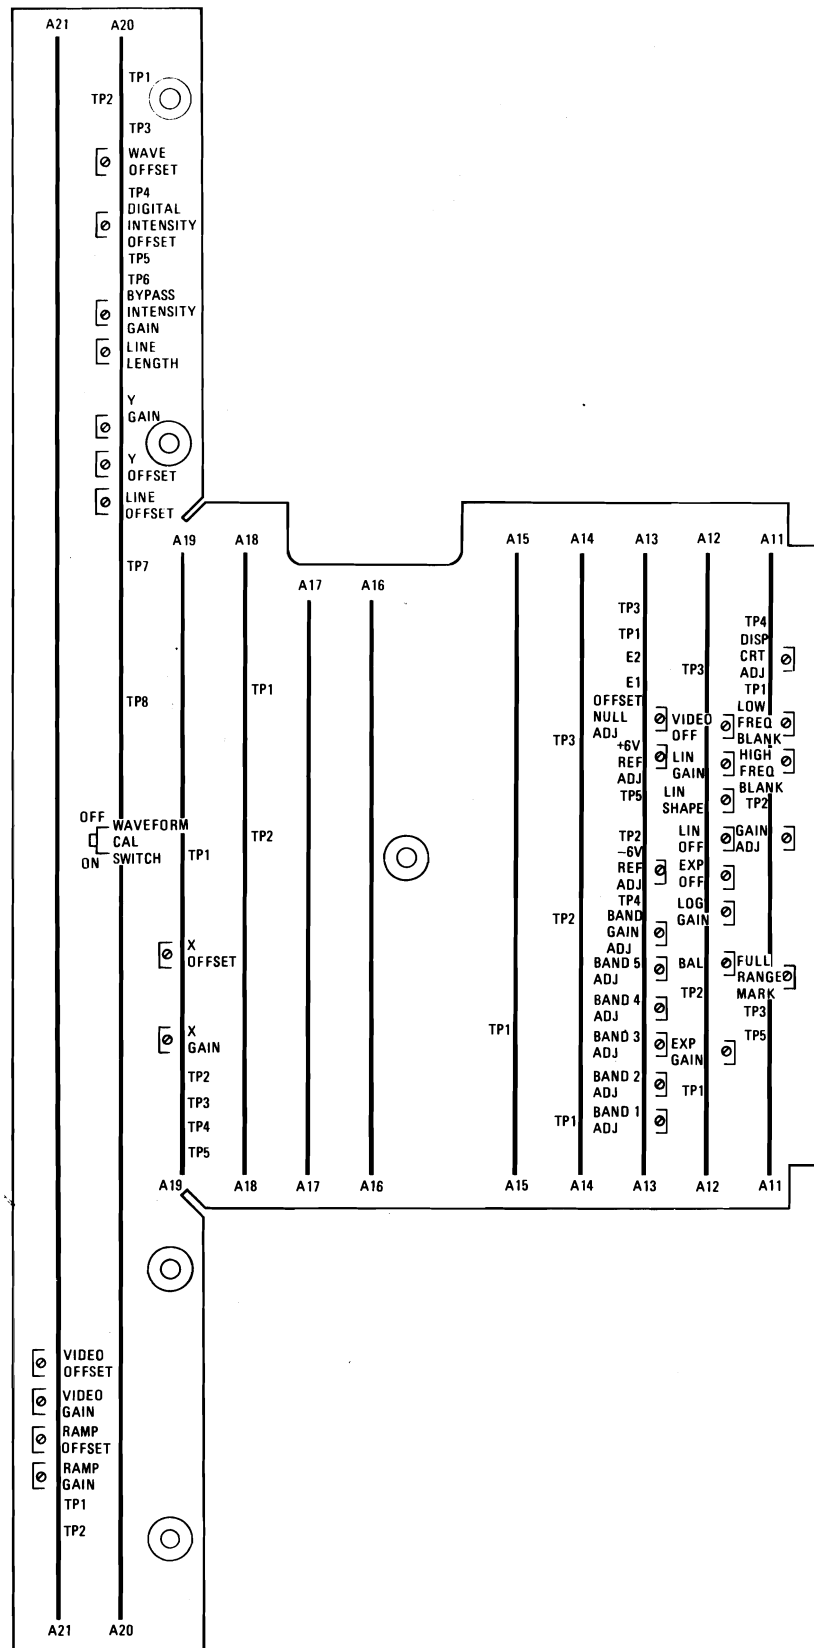
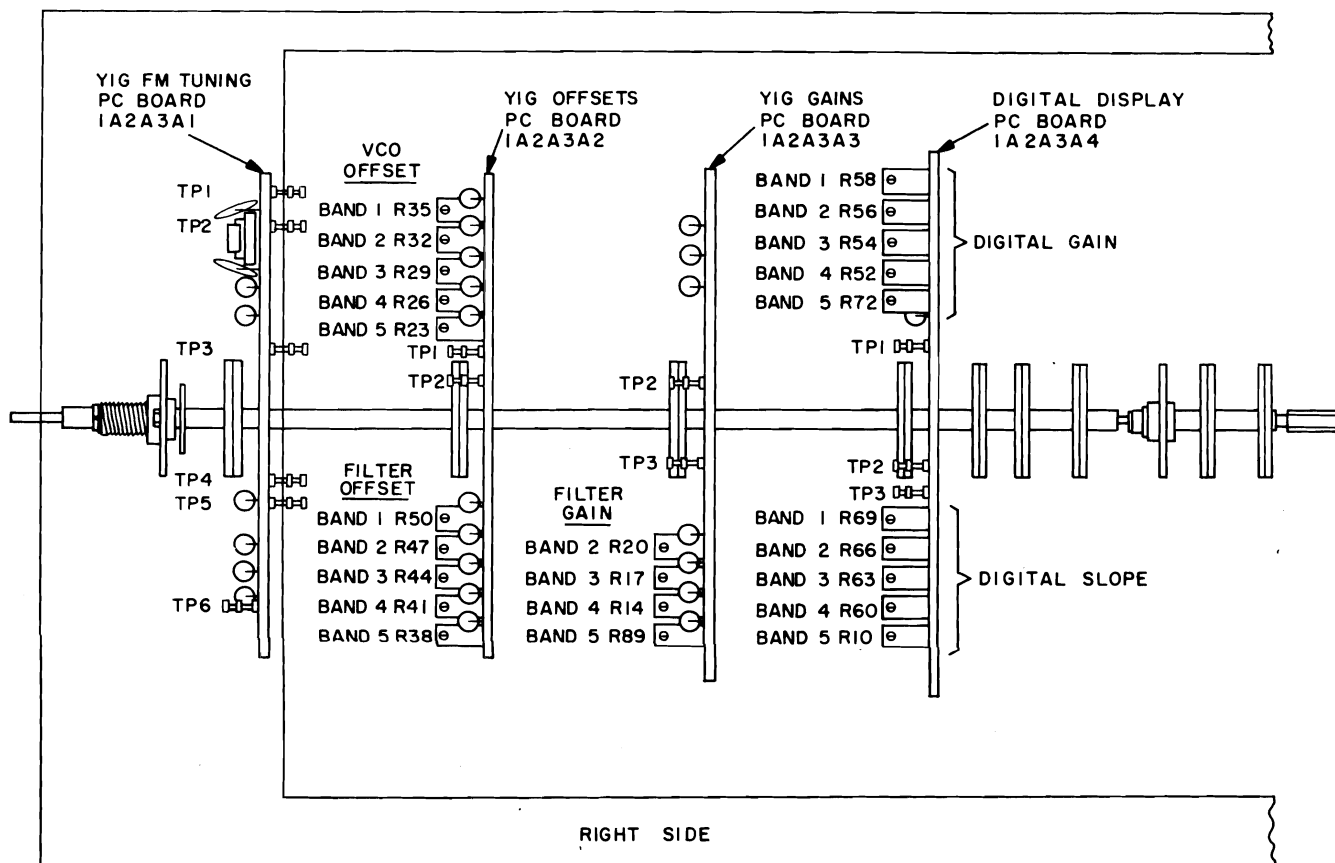

Figure 6-1. Adjustable Component and Test Point Location Diagram for Card File Assemblies 1A11 Through 1A21
Figure 6-2. Adjustable Component and Test Point Location Diagram for RF Range Switch Assemblies 1A2A3A1 Through 1A2A3A4
3. Connect a digital voltmeter between test point A13TP5 on Regulator Bias Printed Circuit Board 1A13 and chassis ground. Adjust +6V REF ADJ potentiometer 1A13R37 on Regulator Bias Printed Circuit Board 1A13 (Figure 6-1) for a  $+6 \pm 0.005$  Vdc reading.
3. Twenty comb lines should appear on the display. If not, adjust BAND 1 FILTER OFFSET potentiometer 1A2A3A2R50 (Figure 6-2) on Yig Offset Board (part of RF Range Switch Assembly 1A2A3) until 20 comb lines appear. Two settings are possible; the most clockwise setting is correct.
5. Set SCAN WIDTH/DIV control to 100 MHz position. Adjust GAIN ADJ potentiometer 1A11R21 in Sweep Generator Printed Circuit Board 1A11 (Figure 6-1) while monitoring A11TP2 on an oscilloscope and set the sweep excursions for approximately 1.4 volt displacement. Adjust HORZ GAIN control on Front Panel so that each 100 MHz comb line falls on a graticule line. (Some adjustment of the TUNING control will be necessary to cause the first comb line to fall on first graticule line.)
MHz position and recenter signal. Set SCAN WIDTH/DIV to 200 MHz position; zero beat should stay in center of display. If not, adjust DISP CRT ADJ potentiometer 1A11R12 in Sweep Generator Printed Circuit Board 1A11 (Figure 6-1).
8. Turn VAR VIDEO BW control counterclockwise approximately half way. Adjust BAL potentiometer 1A12R24 on Processed Video Printed Circuit Board 1A12 (Figure 6-1) until there is no baseline movement when the VERT SCALE/DIV is rotated between the 2, 5, and
10. Adjust LOG GAIN potentiometer 1A12R25 on Processed Video Printed Circuit Board 1A12 (Figure 6-1) for an inverted video signal with a displacement of 1.4 volts from the peak to the center of the noise. Adjust both the front panel vertical position control  $\updownarrow$  and VERT GAIN control so that the CRT displays a signal with the baseline on the -102 dB line and the peak of the signal on the 0 dB line. Set the VERT SCALE/DIV switch to
1. Connect an AILTECH 70790 Comb Generator to RF INPUT connector on Front Panel and turn TUNING control to center trace on display. Ground test point 1A14TP1 on Digital Display Printed Circuit Board No. 2 1A14 (Figure 6-1) with a clip lead. This centers the band on the display and disables the TUNING. The CENTER FREQUENCY (MHz) readout should indicate 1000 MHz. If not, adjust BAND 1 DIGITAL SLOPE potentiometer 1A2A3A4R69 (Figure 6-2) on RF Range Switch Assembly 1A2A3 for the proper reading.
2. Locate 1000 MHz comb line by counting 10 lines up from the zero beat line. (Note: Zero beat line does not change amplitude when RF ATTEN (dB) control is rotated.) The 1000 MHz line should fall in center of display. If not, adjust BAND 1 VCO OFFSET potentiometer 1A2A3A2R35 (Figure 6-2) on RF Range Switch Assembly 1A2A3. Adjust BAND 1 FILTER OFFSET potentiometer 1A2A3A2R50 (Figure 6-2) on RF Range Switch Assembly 1A2A3 for maximum amplitude.
3. Remove clip lead from test point TP1 on Digital Display Printed Circuit Board No. 2 1A14, set SCAN WIDTH/DIV to 10 and adjust TUNING to set zero beat signal to center of display. Adjust BAND 1 DIGITAL GAIN potentiometer 1A2A3A4R58 (Figure 6-2) on RF Range Switch Assembly 1A2A3 until CENTER FREQUENCY (MHz) readout indicates 0 MHz. Set SCAN WIDTH/DIV control to 200 MHz position, RF ATTEN (dB) control to 40 and TUNING control to 1000 MHz. Adjust BAND 1 ADJ potentiometer 1A13R2 on Regulator Bias Printed Circuit Board 1A13 (Figure 6-1) until all signal amplitudes on display are maximized.
2. Adjust BAND 2 VCO and FILTER OFFSET potentiometers 1A2A3A2R47, and 1A2A3A2R32 respectively, on RF Range Switch Assembly 1A2A3 and FILTER GAIN potentiometer 1A2A3A3R20 (Figure 6-2), until 20 scan lines
3. Ground test point 1A14TP1 on Digital Display Printed Circuit Board No. 2 1A14 with a clip lead (Figure 6-1). This centers the band on display and disables TUNING. CENTER FREQUENCY (MHz) readout should indicate 3000 MHz; if not, adjust BAND 2 DIGITAL SLOPE potentiometer 1A2A3A4R66 (Figure 6-2) on RF Range Switch Assembly 1A2A3.
4. Locate 3000 MHz signal line on the display with a signal generator or frequency meter as in test setup of Figure 4-5. Adjust R32 (Figure 6-2) on RF Range Switch Assembly 1A2A3 to move this line to center of the display as SCAN WIDTH/DIV is decreased to 10 MHz per division. R47 must be adjusted simultaneously in order to maintain peak response.
5. Returning SCAN WIDTH/DIV to 200 MHz, adjust BAND 2 FILTER GAIN potentiometer R20 (Figure 6-2) on RF Range Switch Assembly 1A2A3 until maximum amplitude occurs for all 20 lines displayed. It should be noted that these adjustments are optimized when SIGNAL CENTER control is at the center of its range.
6. Remove the clip lead from test point TP1 on Digital Display Printed Circuit Board No. 2 1A14 and ensure that 3000 MHz is still centered on the display. Adjust TUNING control if not centered. With SCAN WIDTH/DIV at 30 MHz, rotate TUNING control slowly counterclockwise and count 100 MHz comb lines until the 2000 MHz line (band 2 lower calibration point) is identified. Set SCAN WIDTH/DIV to 10 MHz per division and center this line. Adjust BAND 2 DIGITAL GAIN potentiometer 1A2A3A4R56 (Figure 6-2) on RF Range Switch Assembly 1A2A3 until CENTER
7. Return SCAN WIDTH/DIV to 200 MHz position and TUNING to 3000 MHz. Adjust BAND 2 ADJ potentiometer 1A13R3 (Figure 6-1) on Regulator Bias Printed Circuit Board 1A13 for optimum gain at all comb signals displayed.
2. Adjust BAND 3 VCO and FILTER OFFSET potentiometers and BAND 3 FILTER GAIN potentiometer 1A2A3A2R29, 1A2A3A2R44, and 1A2A3A3R17 on RF Range Switch Assembly 1A2A3 (Figure 6-2) until 50 scan lines appear on the display at maximum amplitude.
3. Ground test point 1A14TP1 on Digital Display Printed Circuit Board No. 2 1A14 with a clip lead (Figure 6-1). CENTER FREQUENCY (MHz) readout should indicate 5800 MHz, if not, adjust BAND 3 DIGITAL SLOPE potentiometer 1A2A3A4R63 (Figure 6-2) on RF Range Switch Assembly 1A2A3.
4. Locate 5800 MHz line (center frequency, band 3) with signals generator or frequency meter. Adjust potentiometers R29 and R44 (Figure 6-2)
5. Set SCAN WIDTH/DIV to 500 MHz per division and adjust BAND 3 FILTER OFFSET and BAND 3 FILTER GAIN potentiometers 1A2A3A2R44 and 1A2A3A3R17 (Figure 6-2) on RF Range Switch Assembly 1A2A3 until maximum amplitude is displayed for all comb lines. It should be noted that these adjustments are optimized when SIGNAL CENTER control is at the center of its range.
6. Remove the clip lead from test point TP1 on Digital Display Printed Circuit Board No. 2 1A14 and verify that 5800 MHz is still in the center of the display. Adjust TUNING control if not centered. With SCAN WIDTH/DIV at 30 MHz, rotate TUNING control slowly counterclockwise and count 100 MHz comb lines until the 4800 MHz line (band 3 lower calibration point) is identified. Set SCAN WIDTH/DIV to 10 MHz per division and center this line. Adjust BAND 3 DIGITAL GAIN potentiometer 1A2A3A4R54 (Figure 6-2) on RF Range Switch Assembly 1A2A3 until CENTER FREQUENCY (MHz) readout indicates 3300 MHz. With a frequency meter or signal generator, verify that the comb line is indeed 3300 MHz. With a frequency meter or signal generator, SET SCAN WIDTH/DIV to 200 MHz and RF ATTEN (dB) control to 20.
7. Set TUNING to 5800 MHz and adjust BAND 3 ADJ potentiometer 1A13R4 on Regulator Bias Printed Circuit Board 1A13 (Figure 6-1) for optimum gain at all comb signals displayed.
2. Adjust BAND 4 VCO and FILTER OFFSET potentiometer and BAND 4 FILTER GAIN potentiometers 1A2A3A2R26, 1A2A3A2R41, and 1A2A3A3R14 on RF Range Switch Assembly 1A2A3 (Figure 6-2) until 70 scan lines appear on the display at maximum amplitude.
3. Ground test point 1A14TP1 on Digital Display Printed Circuit Board No. 2 1A14 with a clip lead (Figure 6-1). CENTER FREQUENCY (MHz) readout should indicate 8900 MHz; if not, adjust BAND 4 DIGITAL SLOPE potentiometer 1A2A3A4R60 (Figure 6-2) on RF Range Switch Assembly 1A2A3.
4. Locate 8900 MHz line (center frequency, band 4) with signal generator or frequency meter. Adjust potentiometers R26 and R41 (Figure 6-2) on RF Range Switch Assembly 1A2A3 to move this line to center of display as SCAN WIDTH/DIV is decreased to **10** MHz.
5. Set SCAN WIDTH/DIV to 700 MHz per division and adjust potentiometer 1A2A3A3R14 on RF Range Switch Assembly 1A2A3 until maximum amplitude is displayed for all comb lines. (Note: It may be necessary to degauss the Yig components from the hysteresis buildup. This is accomplished by exercising the SCAN WIDTH/DIV control from the 700 MHz to 10 MHz positions at least once.) Readjust potentiometers R41 and R14 (Figure 6-2) until maximum amplitude is displayed for all comb lines. It should be noted that these adjustments are optimized when SIGNAL CENTER control is at the center of its range.
6. Remove the clip lead from test point TP1 on Digital Display Printed Circuit Board No. 2 1A14 and verify that 8900 MHz is still in the center of the display. Adjust TUNING control if not centered. With SCAN WIDTH/DIV at 30 MHz, rotate TUNING control slowly counterclockwise and count 100 MHz comb lines until the 5400 MHz line (band 4 lower calibration point) is identified. Center this line at **10** MHz per division and adjust BAND 4 DIGITAL GAIN potentiometer 1A2A3A4R52 (Figure 6-2) on RF Range Switch Assembly 1A2A3 until CENTER FREQUENCY (MHz) readout indicates 5400 MHz. Set SCAN WIDTH/DIV to 500 MHz position and RF ATTEN (dB) control to **10** position.
7. Set TUNING to 8900 MHz and adjust BAND 4 ADJ potentiometer 1A13R5 on Regulator Bias Printed Circuit Board 1A13 (Figure 6-1) for optimum gain at all comb signals displayed.
2. Adjust BAND 5 VCO and FILTER OFFSET potentiometers and BAND 5 FILTER GAIN potentiometer 1A2A3A2R23, 1A2A3A2R38, and 1A2A3A3R89 on RF Range Switch Assembly 1A2A3 (Figure 6-2) until 120 scan lines appear on the display at maximum amplitude.
3. Ground test point 1A14TP1 on Digital Display Printed Circuit Board No. 2 1A14 with a clip lead (Figure 6-1). CENTER FREQUENCY (MHz) readout should indicate 16000 MHz; if not, adjust BAND 5 DIGITAL SLOPE potentiometer 1A2A3A4R10 (Figure 6-2) on RF Range Switch Assembly 1A2A3.
by exercising the SCAN WIDTH/DIV control from the 700 MHz to 10 MHz positions at least once.) Readjust potentiometers R23 and R89 (Figure 6-2) until maximum amplitude is displayed for all comb lines. It should be noted that these adjustments are optimized when SIGNAL CENTER control is at the center of its range.